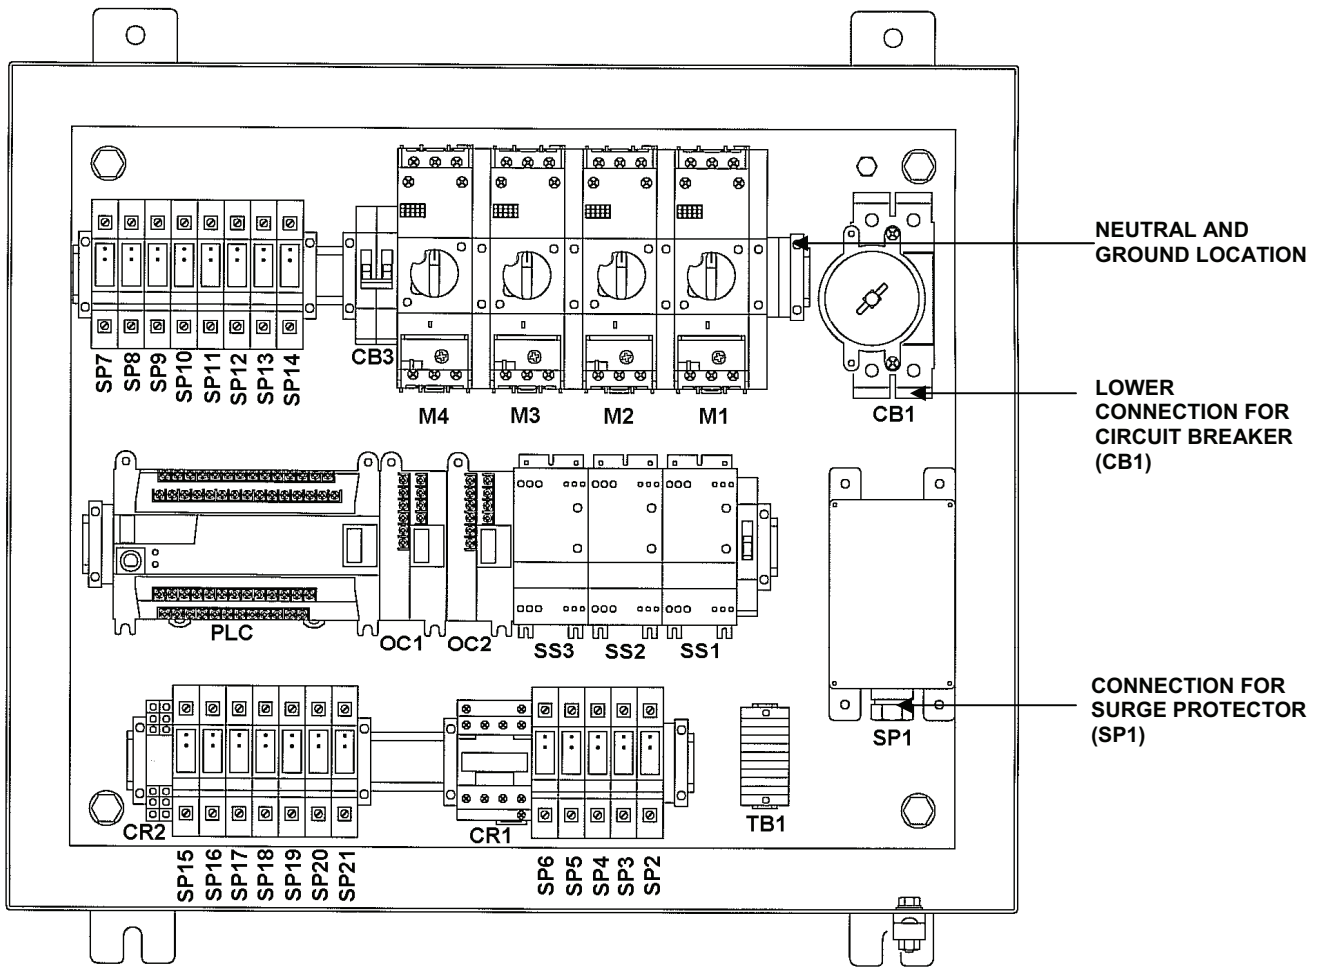

Figure 1. Control Module Diagram.
1. Remove wires 60 and 61 from lower connections of circuit breaker (CB 1). See Figure 1.
1. Install wires 60 and 61 on the lower connections of circuit breaker (CB1). See Figure 1.